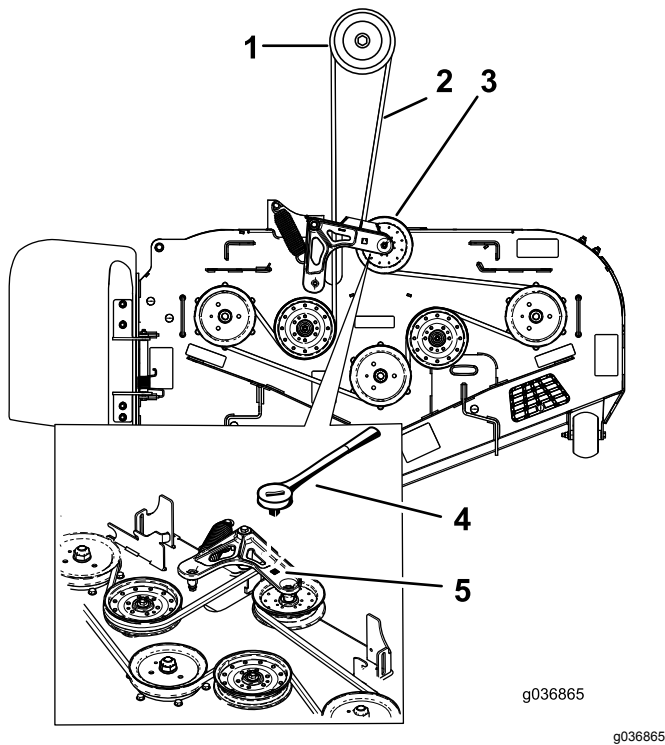

Figure 86
5. Remove the spring tension from the spring-loaded idler pulley. Refer to Figure 84 or Figure 86.
Note: For 2500 Series mower decks, use a ratchet in the square hole in the idler arm to remove tension on the idler spring (Figure 86).
7. Install the new belt around the mower pulleys and the clutch pulley under the engine (Figure 84 or Figure 86).
8. Install the idler spring (Figure 84 or Figure 86).